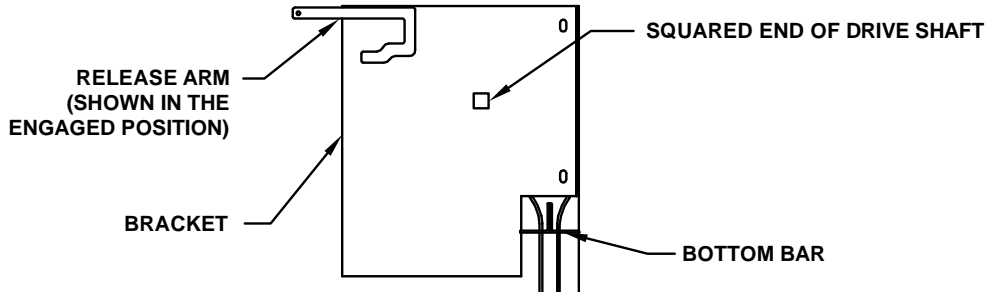

FIG 33
- 9) To reset the door, see reset instruction in FIG 33.